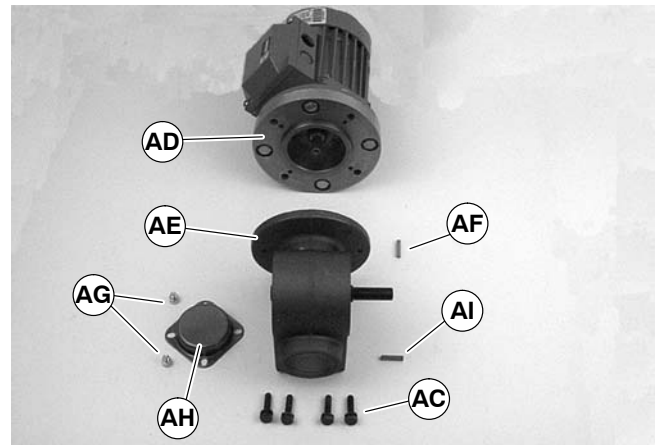

Figure 19
6. Remove four screws (AC of Figure 19). Detach motor (AD) from gear reducer (AE). Retain motor output shaft key (AF).
10. With key (AF of Figure 19) in keyway, slide motor (AD) and gear reducer (AE) together. Install screws (AC) and tighten.